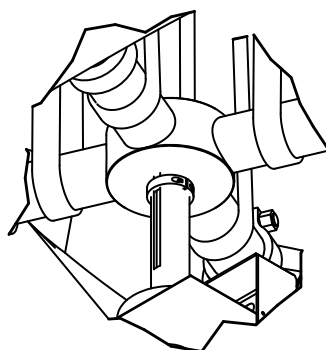

Figure 29. Key Lineup
6. Line up the key with the slot. Slowly lower the fan onto the shaft until the fan hub is flush against the factory installed tangent locking collar (**Figure 29**).